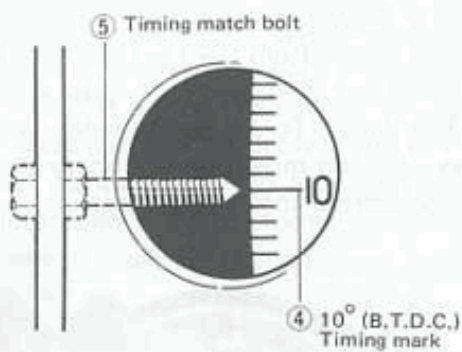

Fig. 9-22
Tie the light to No. 1 high-tension cord. Start up the engine and run it at a speed not higher than 950 r/min. Under this condition, direct the light to the flywheel. If the 10° timing mark ④ appears aligned to the timing match bolt ⑤, the ignition is properly timed. See Fig. 9-22.